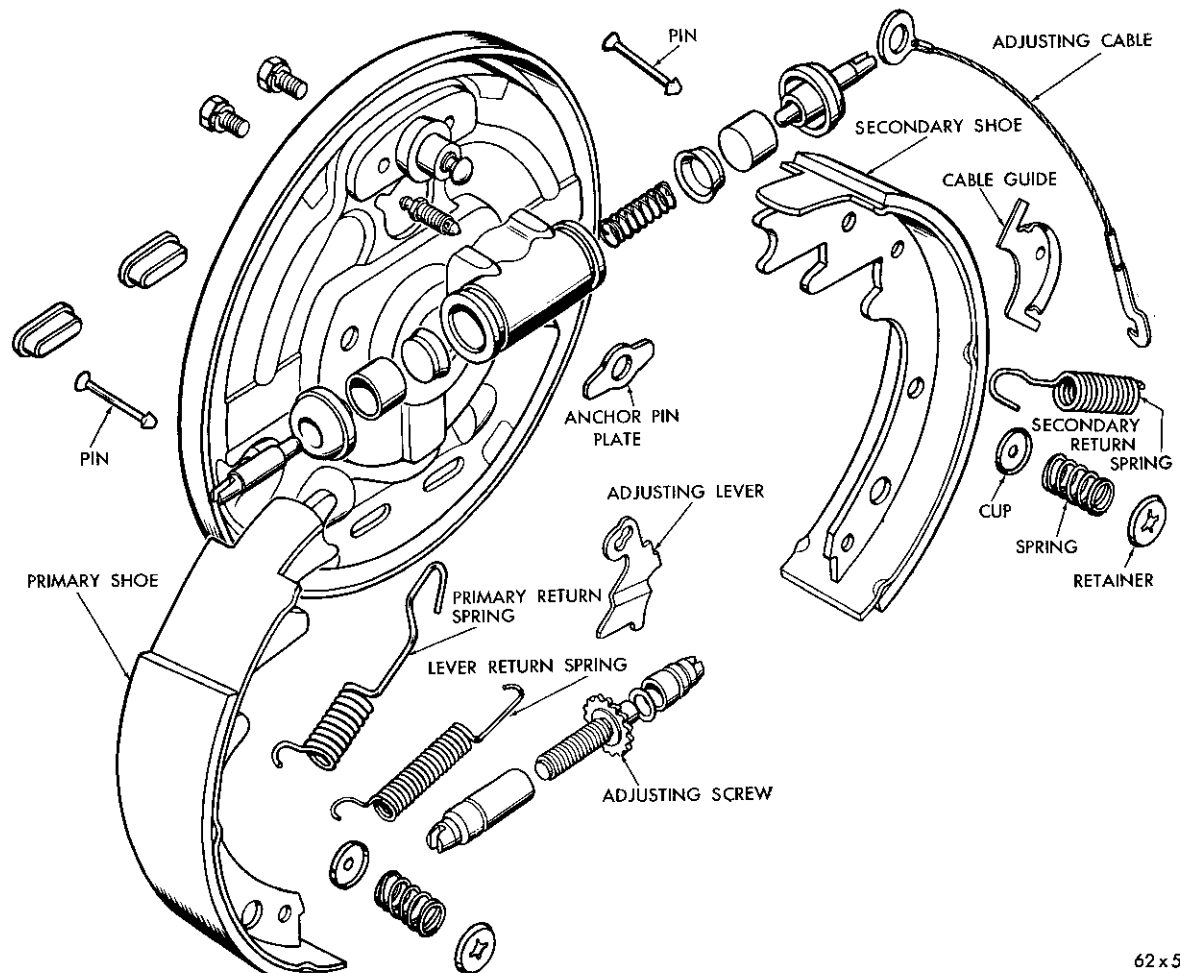

Fig. 1—Front Brake Assembly.
nected by a tubular star wheel adjusting screw, (Figs. 1 and 2). Police vehicles with heavy duty brakes are not self-adjusting.
To install the front brake shoes, refer to Figure 1, and proceed as follows:
(1) Match a primary with a secondary brake shoe and place them in their relative position on a work bench.
(2) Lubricate the threads of the adjusting screw and install it between the primary and secondary shoes with the star wheel next to the secondary shoe. (Fig. 1). The star adjusting wheels are stamped "R"